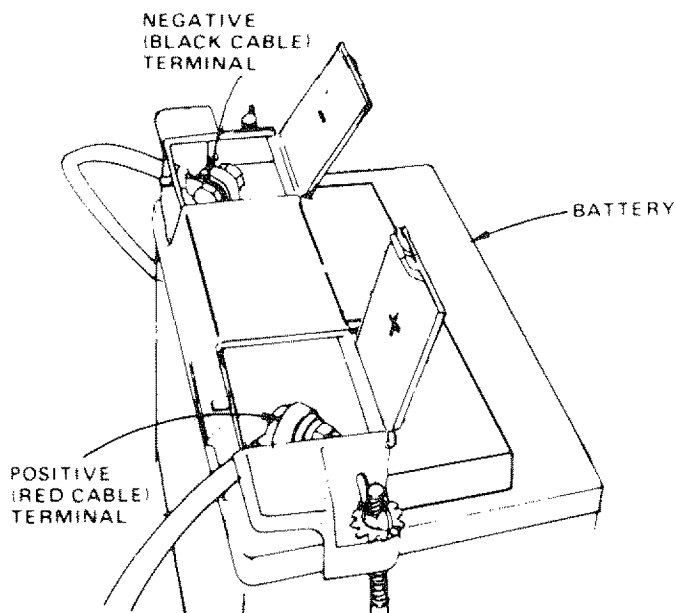

FIGURE 30
- Connect each end of the RED cable to the POSITIVE (+) terminals of each battery (taking care not to short against chassis) (Fig. 30).